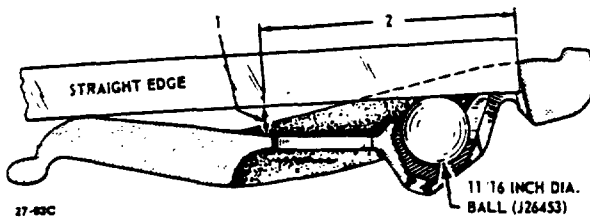

Figure 4-3. Checking Release Lever for Bend
5. Replace worn release levers, springs and ball seats. Check levers with a straight-edge and 11/16 inch ball (J26453), see Figure 4-3, and if bent so that dimension (1) is more than 11/32 inch when measured at a point where distance (2) is 2-1/2 inch, replace the lever.